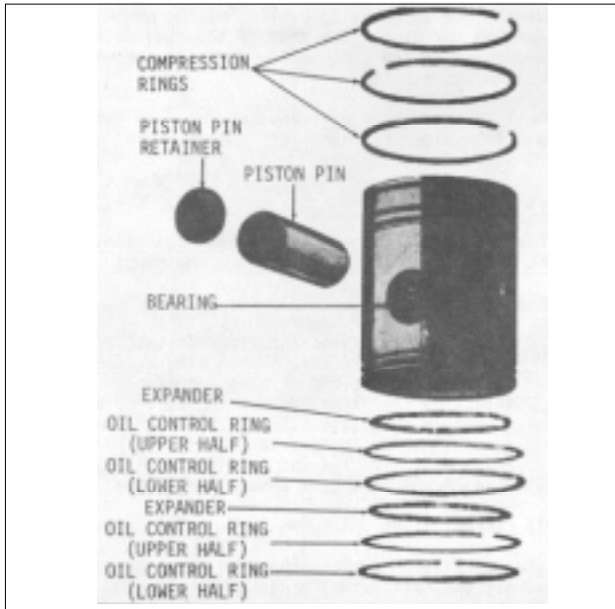
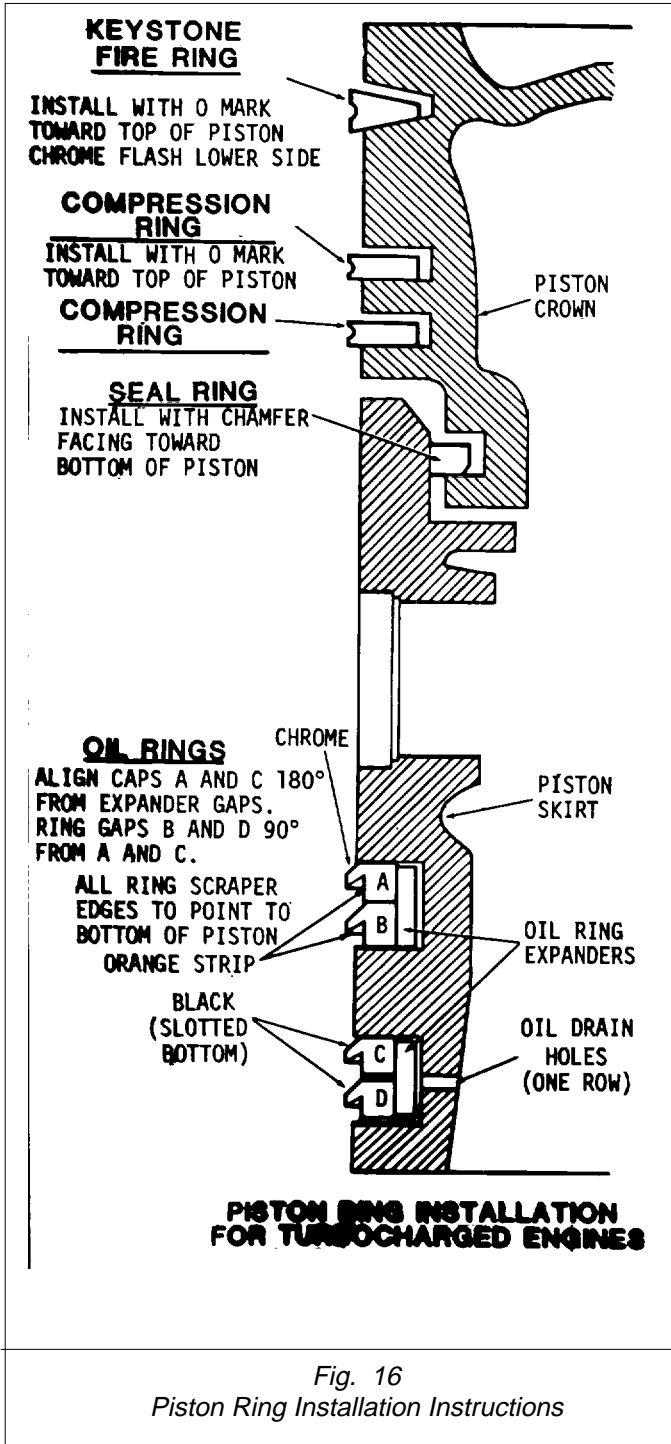

Fig. 12
Fig. 16
The current piston skirt used in turbocharged engines has only one row of oil drain holes (Fig. 16).
Each piston is fitted with a fire ring, two compression rings and two oil control rings (Fig. 12).
- (1) Starting with the bottom ring, install the compression rings with tool J 8128 as shown in Fig. 4. To avoid breaking or over-stressing the rings, do not spread them any more than necessary to slip them over the piston. Refer to Fig. 12 and Fig. 16 for ring identification and location.
- (2) Stagger the ring gaps around the piston.
Refer to Fig. 16 for the type and location and install the oil control rings as follows:
- (2) Install the oil control rings by hand. Start with the upper half of the top oil ring and align the gaps as indicated in Fig. 16.